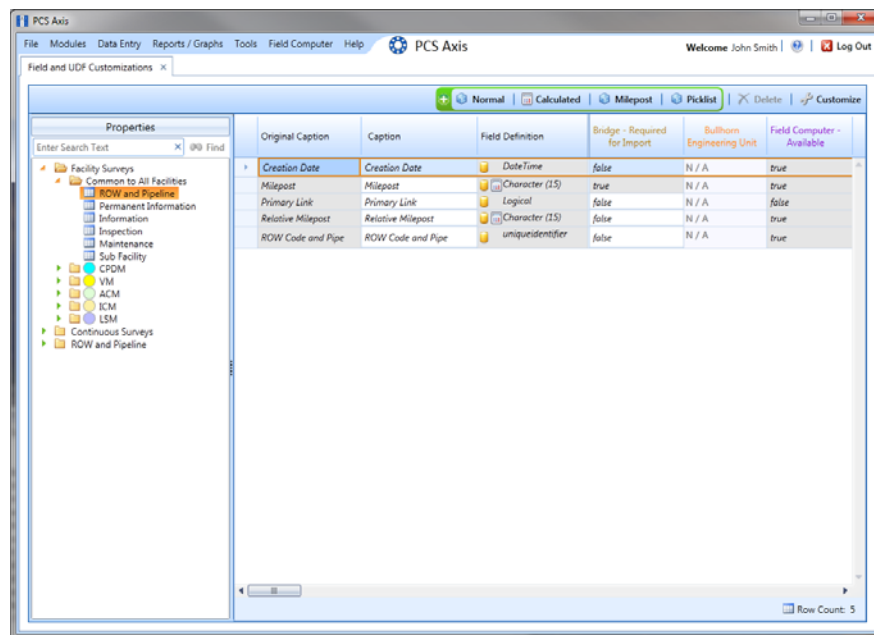

Figure 2-22. Field and UDF Customizations
- For example, double-click **Facility Surveys** > **Common to All Facilities** > **ROW and Pipeline**. The grid displays related fields and property settings for *ROW and Pipeline* (Figure 2-22).